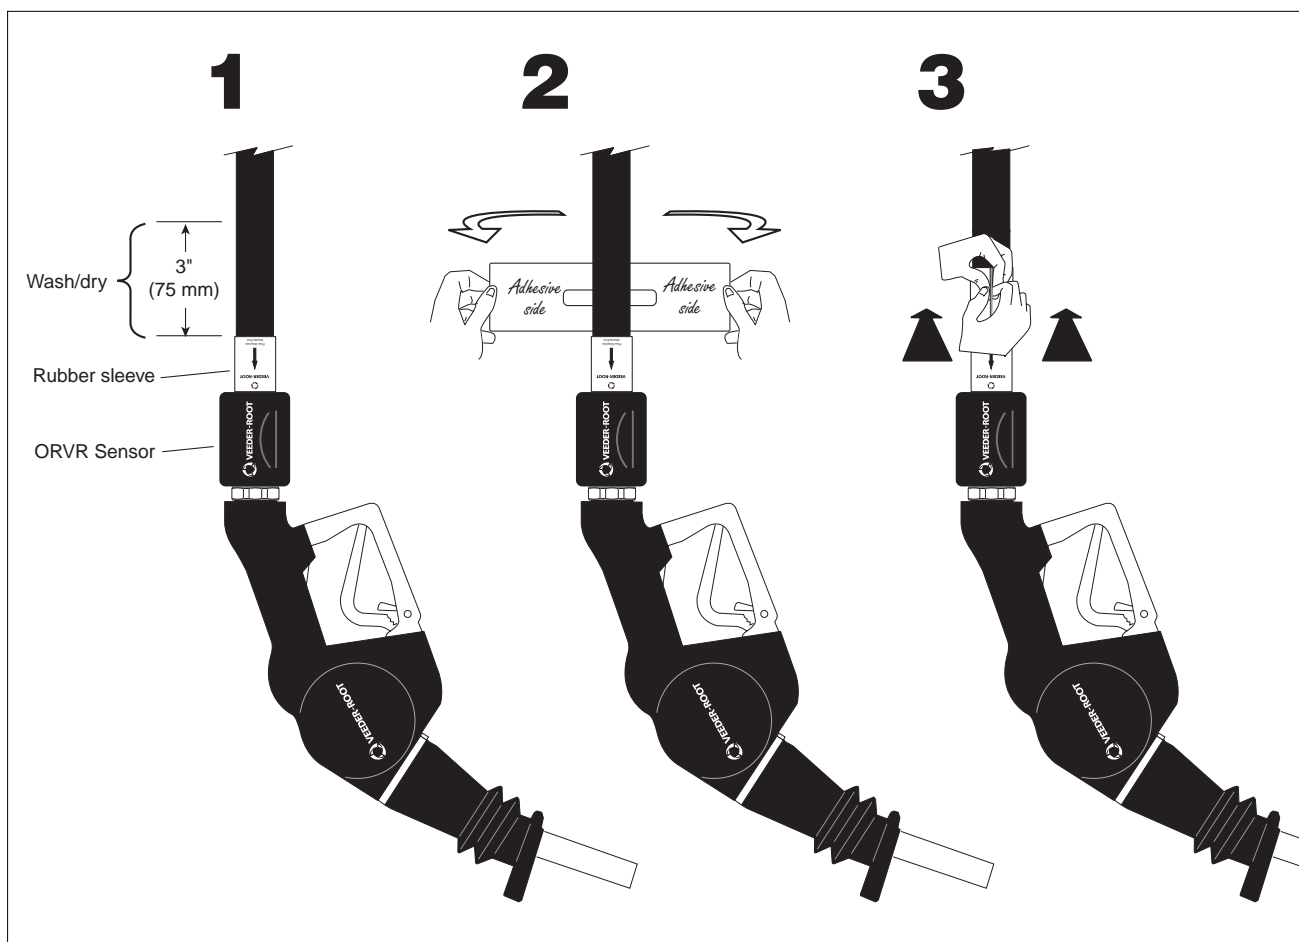

Figure 5. Attaching ORVR Hose Assembly Safe-Use Label
1. Using a suitable cleaning solution, remove any dirt or contaminant from the circumference of the hose starting just above the rubber sleeve at the nozzle end of the hose and up about 3 inches (75mm) (Item 1, Figure 5). Wipe dry.
3. With the adhesive side of the label facing the hose, hold one end in each hand as you carefully bring the ends of the label together (Item 2, Figure 5).
4. With the ends of the label aligned, pull the label against the hose as you slide your fingers down the label towards the hose, sticking the label together and to the hose (Item 3, Figure 5).